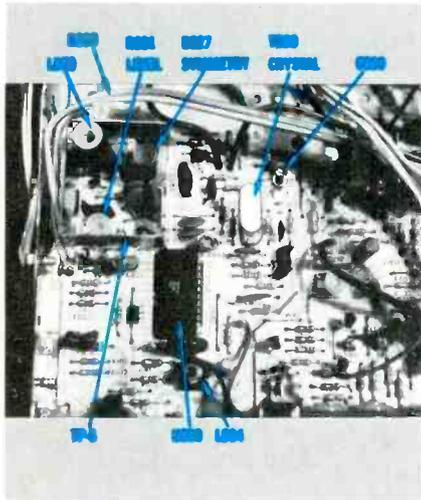

Figure 1 Most of the chroma components of the RCA CTC99 are grouped in this area.
- Each TV model is designed for certain ratios between dc voltages: *video-detector output; IF AGC; and RF AGC*. When correct, these voltages give good contrast while preventing snow and overload. A very accurate analysis of AGC troubles can be made by comparing these voltages, when the optimum voltages are known for the model under repair. For example, one old model had these voltages during *normal* operation on a local TV station: detector -2.6V; IF -5V; and RF OV (at the RF grid). The snow on Figure 1 was caused by: detector -3V; IF-0.4V; and RF -5V. The Figure 3 low contrast was produced by: detector -0.5V; IF -9V; and RF -2V. In Figure 5A, the white raster was caused by: detector -19V; IF -0.5V; and RF OV (the video tube was biased to cut-off, so no picture was seen). The Figure 8B picture bending was produced by a lower strength and: detector -7V; IF -3V; and RF OV (at grid). Generally, normal IF AGC plus insufficient RF AGC causes overload *only* when the signal is very strong. Contrast is reduced by simultaneous application of too much RF and IF negative AGC voltage. A total loss of RF and IF AGC causes overloads on strong signals, producing either a dark bending picture or a white raster without a picture. □
Components of the RCA CTC 99 chroma section are grouped on the circuit board behind the IF enclosure. Several major components are identified in Figure 1. One integrated circuit (U800) performs most chroma functions, including amplification, color-subcarrier generation, burst separation, and demodulation. The luminance and chrominance -Y signals are matrixed inside discrete transistors before these signals are amplified by power transistors that drive the picture-tube cathodes.